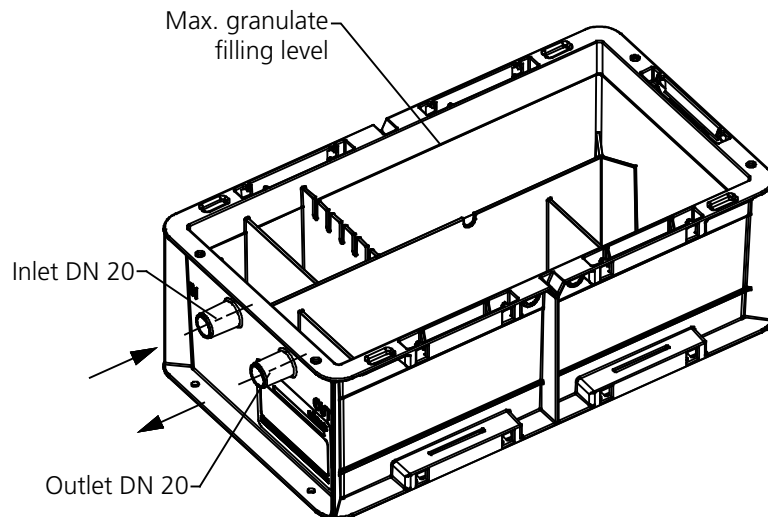

Fig. D-2: Granulate filling level of N-14, N-70
- Fill in the neutralisation granulate as indicated in fig. D-2, D-4, D-5 or D-6. The N-14 system already comes completely filled.